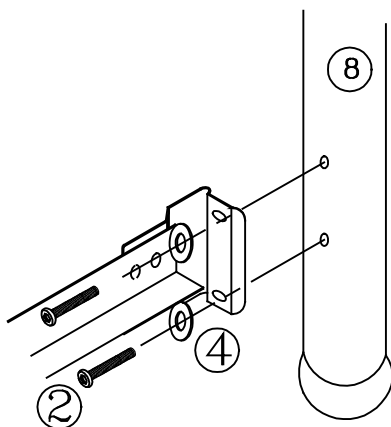

FIGURE 3
- Position footboard panel and align holes in the post (8) with holes in the frame bracket. (See figure 3)
- Place flat washer (4) on each screw (2). Insert through bracket and into post. Hand-tighten, DO NOT TIGHTEN screws all the way.